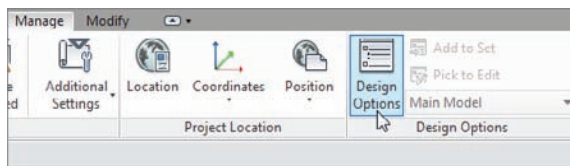

FIGURE 21.9 Clicking the Design Options button
1. On the Manage tab, click the Design Options button, as shown in Figure 21.9.